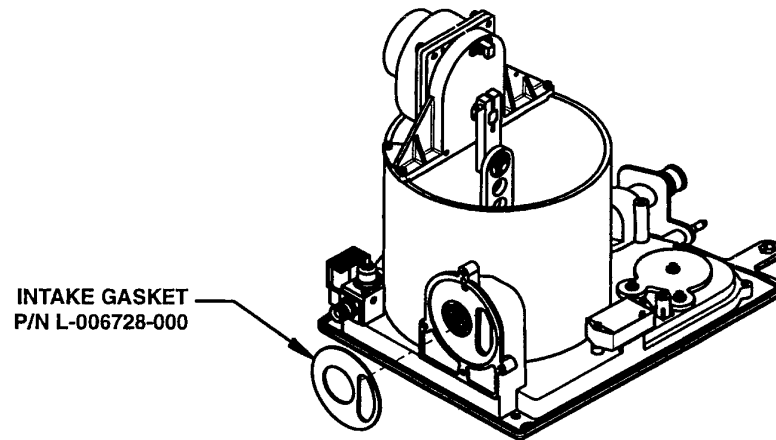

FIGURE 4-30.
1. Apply an Intake Gasket onto the manifold inlet. See Figure 4-30.